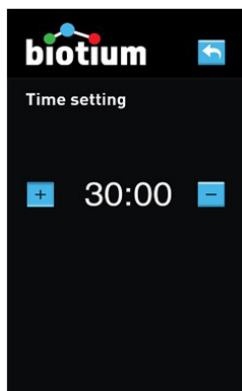

Figure 3. Glo-Plate™ 2.0 time settings screen.
2. To set the length of time for light exposure, press the gear icon in the top right-hand corner of the display screen. This will bring up the time setting screen, where you may add or subtract time with the plus and minus icons, respectively (Figure 3). The time setting can be adjusted in 1 minute intervals. The minimum time that can be entered is 5 minutes, and the maximum is 45 minutes.